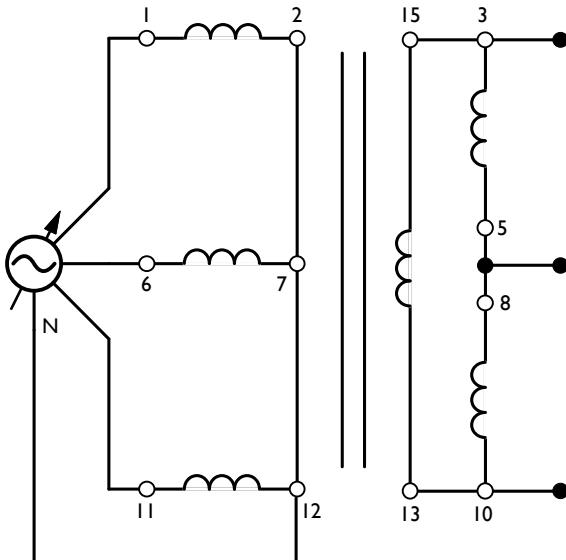

Figure 2.6: Three-Phase Transformer Connected in Wye-Delta
29. With the power off, connect the Three-phase Transformer module in the $\text{Y} - \Delta$ configuration shown in Figure 2.6. Connect E1, E2, and E3 to measure the line voltages at the primary, E_{1-6} , E_{11-1} , and E_{6-11} .